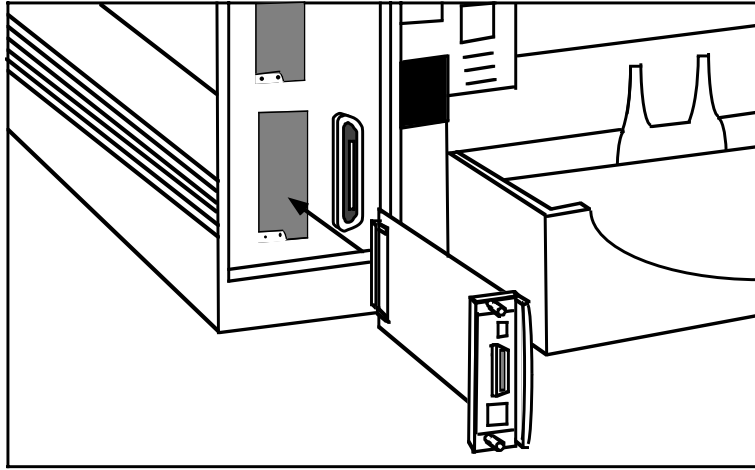

Figure 2-1
The XJet 2000 plugs into the I/O slot located on the rear of your printer or plotter as shown in figure 2-1. The installation steps are as follows:
3. Insert the XJet 2000 into the I/O slot and tighten down the two thumbscrews as shown in figure 2-1.